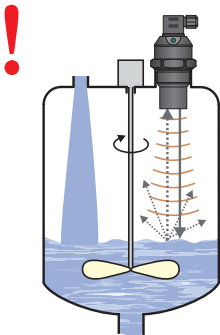

Fig. 11: Moderately stirred surface
- The ultrasonic signal can be scattered or attenuated if the surface is moderately stirred or rippled (due to a mixer, inflow of liquid, etc.). This may result in **reduction of the measurement range** or unreliable operation of the device (Fig. 11). **For a rippled or swirling level, you can use the directional horn to eliminate scattering of the ultrasonic signal.**